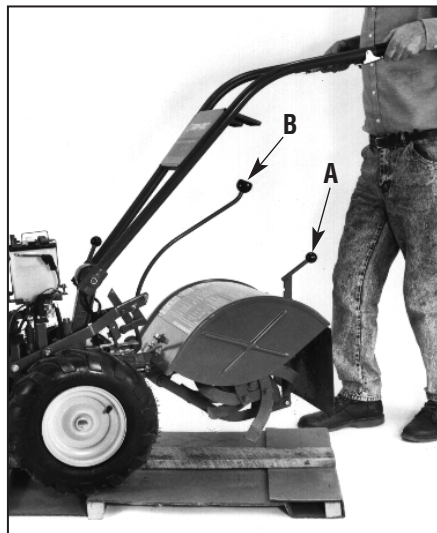

Figure 2-4: Photo shows the Depth Regulator Lever (A) and the Wheel Speed Lever (B).
1. Set the Depth Regulator Lever (A, Figure 2-4) to Travel position. Do this by lifting the tiller by the handlebars, then pulling straight back on the lever and sliding down to the highest notched setting.
2. Set the Wheel Speed Lever (B, Figure 2-4) to Freewheel position. To do this, move the lever approximately halfway between the Fast and Slow settings while you rock the tiller forward and backward until the wheels move freely.